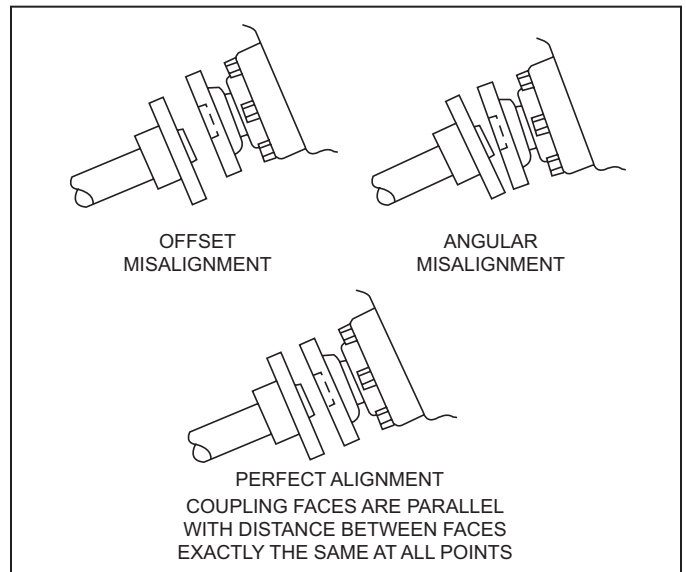

Figure 11-28 Shaft Mating Surface Check
3. Check that the coupling center lines align by butting the propeller shaft coupling against the transmission coupling (Figure 11-28). The shoulder on the propeller shaft coupling face should engage the recess on the transmission coupling face, with no resistance.